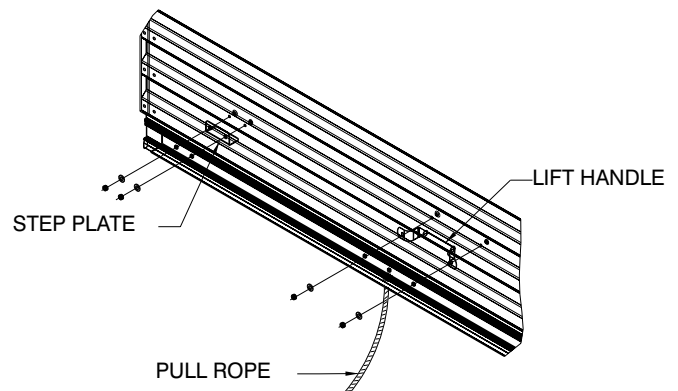

Figure 13
1. Install lift handle to the outside center of bottom bar using 1/4" bolts already installed in the bottom bar and in the hardware box. See Figure 13.
2. Install step plate to the outside of bottom bar on the side curtain(lock is installed), using 1/4" bolts already installed in the bottom bar and in the hardware box. See Figure 13.
3. Use remaining 1/4" bolts to fill unused holes on the opposite side of the bottom bar. See Figure 13.
1. Attach pull rope to inside of bottom bar. See Figure 13.